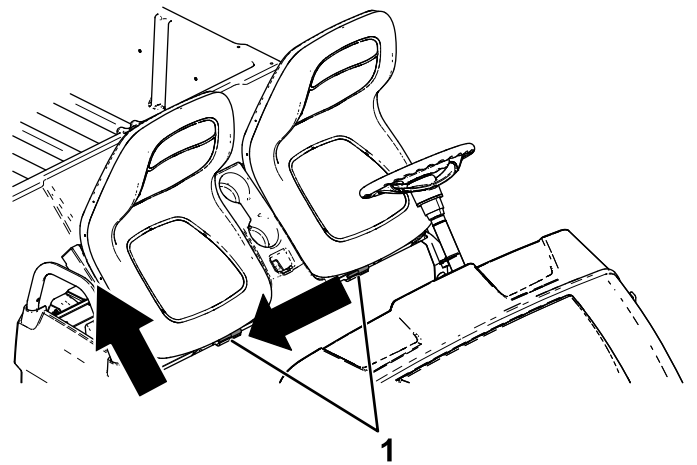

Figure 30
2. Slide the seat assembly to the side out of the pins, and lift the seat assembly upward (Figure 30).